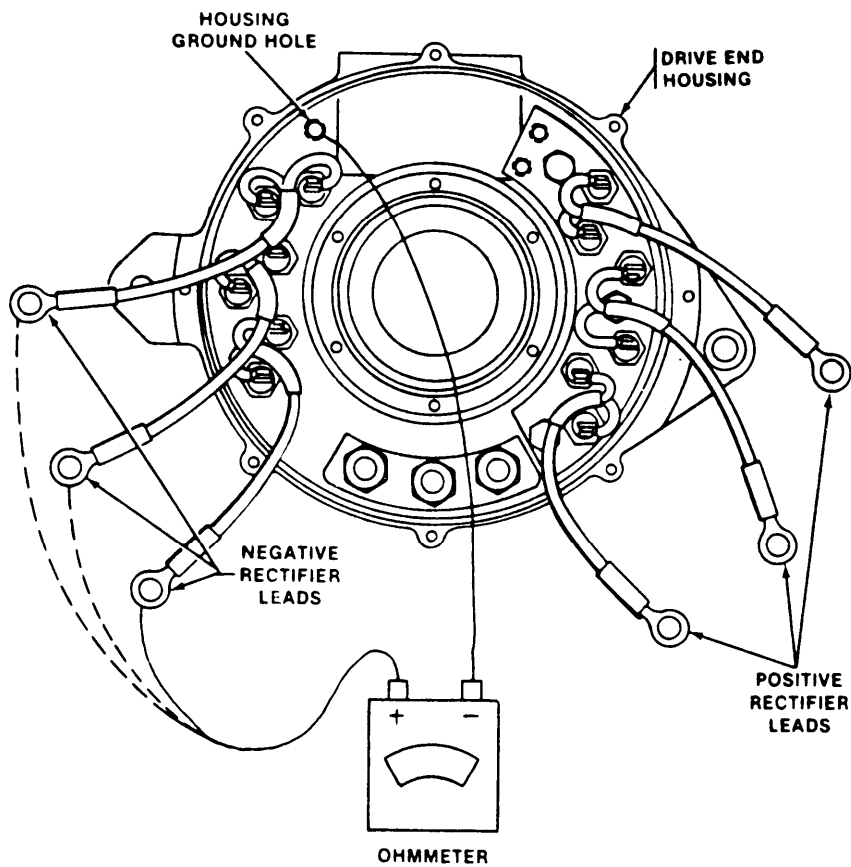

Figure 2-4. Shorted Negative Rectifier Test.
Step 6. Check for shorted negative rectifiers. Connect ohmmeter to each of the three negative rectifier leads in accordance with figure 2-4.